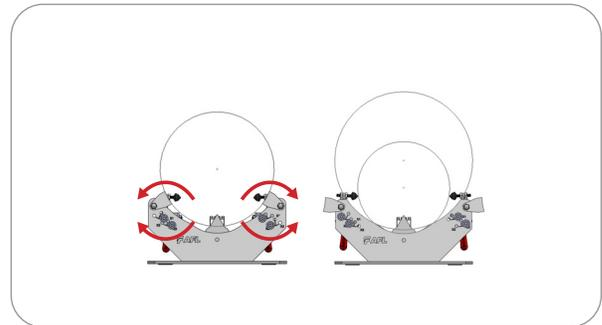

Figure 4 – Cradle Support Positioning
2. For Apex X-2 and X-2S models, the Cradle Supports must also be engaged for a secure hold (Figure 4).
- If configuring the Installation Stand for use with X-2 or X-2S, once the Clamp Bracket Assemblies are positioned and secured, flip the Cradle Supports inward to properly hold the closure base (see Figure 4). Table 1 summarizes the position of the Cradle Supports by Apex Model.